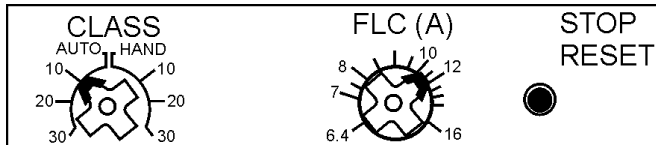

Figure 14. Electronic Overload Unit
There are two dials on the Electronic Overload Unit (Figure 14) that require adjustment to meet the amperage requirement of the pump motor in use.
1. Set the **CLASS** dial pointer (Figure 14) to the **HAND** position 10. This controls the reset function only. It does not affect the ability of the pump to run with or without float switches.